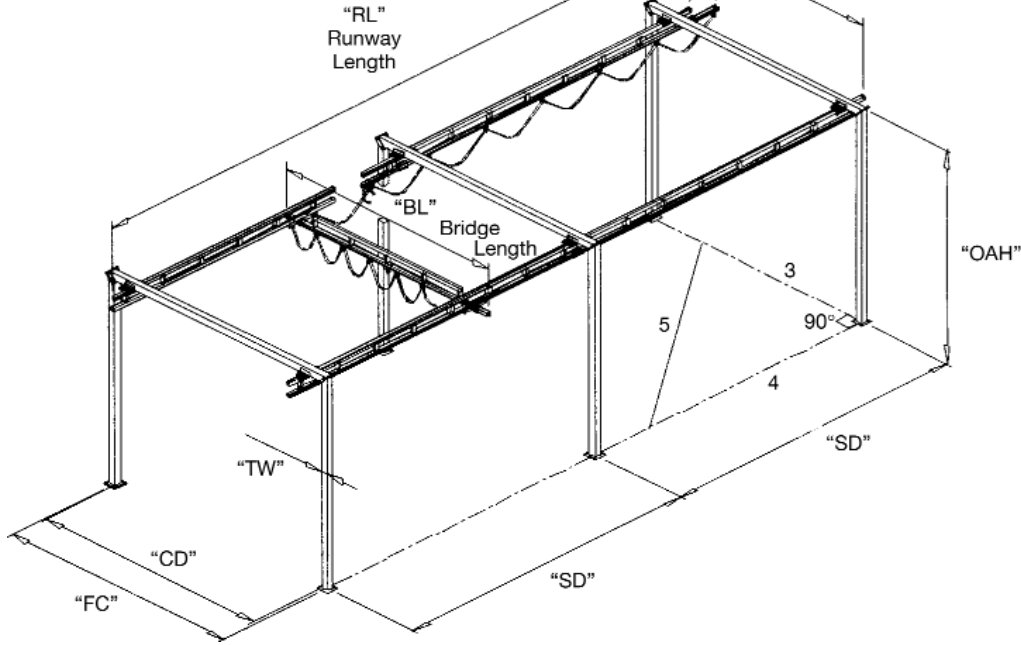

FIGURE 1
2. *Figure 1* shows the basic layout of the system. Select one of the corner columns shown on the diagram as a starting point for the layout. Locate the opposite column of the same support frame at a distance "FC". This will be the center-to-center width of the frame. Mark two parallel lines "FC" apart on the floor (using a chalk line, a string or a laser instrument) approximately the length of the runway. Check to make sure that the columns are directly opposite each other (frames must be perpendicular to the lines within $\frac{1}{4}$ " in 20'-0"). One method that can be used to check this, if the floor is clear of obstructions, is to form a 3-4-5 triangle (see *Figure 1*). Locate the other columns using the "SD" dimension. Recheck your final layout. Accuracy of the layout will facilitate installation and result in a smoother operating system.